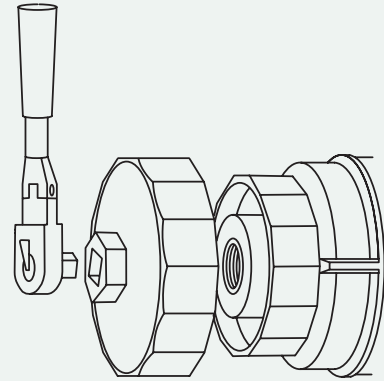

FIGURE 1
- 1 Remove housing cap and drain leftover oil. Refer to FIG.1